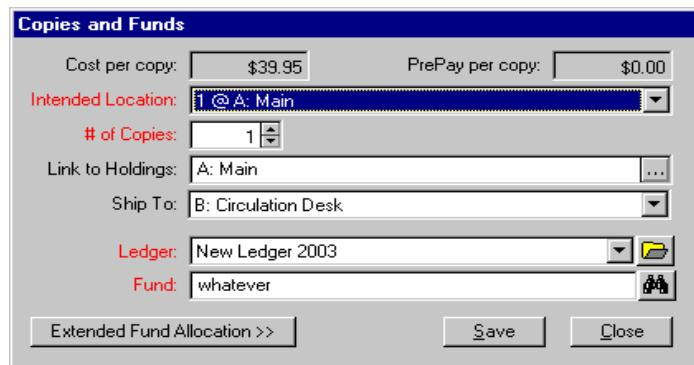

Figure 13-14. Copies and Funds dialog box - ellipsis displayed beside the Link to Holdings field
- The **ellipsis** button beside the **Link to Holdings** field on the **Copies and Funds** dialog box (Figure 13-14). The **Copies and Funds** dialog box can be displayed from the **Copies/Funds** tab of a line item. See Copies/Funds Tab on page 6-49.